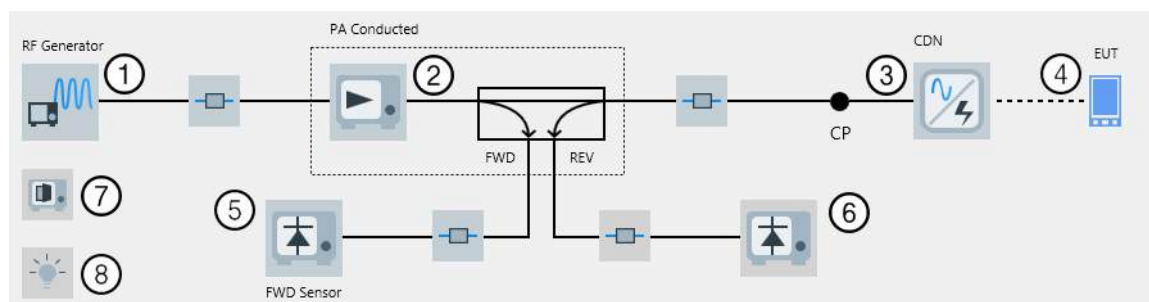

Figure 4-149: EMS hardware setup diagram (conducted) for CDN / EM Clamp in EUT Test View
To select a device or a signal path for integrating it into the hardware setup, click its icon in the diagram. For example, click the generator icon (labeled (1) in Figure 4-149).
Note that this monitoring procedure is different from other setups. For example, an EMS - CDN / EM Clamp setup provides for tests without a receiving transducer (see Figure 4-149).
- The "EUT Test View" (see Figure 4-149)